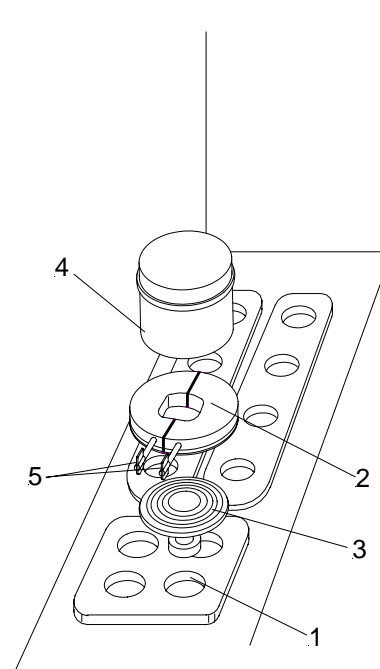
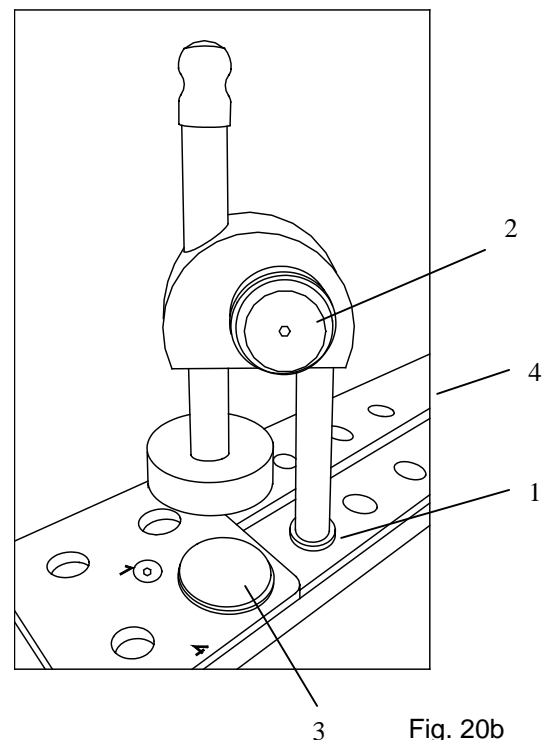

Fig. 20a
Fig. 20b
Two different heat extractors (fig. 20a and fig. 20b) are available:
#### Heat extractor (fig. 20a):
- Insert the chuck (fig. 20a.3) into the fast freezing rail (for standard version) or into the rail with Peltier element (for versions with option P).
- Then insert a cryo mold (fig. 20a.2) onto the chuck (30 or 40 mm).
- The heat extractor (fig. 20a.4) is placed horizontally onto the specimen.
#### Heat extractor (fig. 20b):
- Insert the heat extractor (fig. 20b) into the fast freezing rail (fig. 20b.1).
- To pre-cool the heat extractor, turn the knob (fig. 20b.2) to lower the heat extractor onto the fast freezing plate (fig. 20b.4).
- Turn the knob (fig. 20b.2) to lower the heat extractor onto the specimen (fig. 20b.3).
- Further turn the knob (fig. 20b.2) to increase the pressure onto the specimen. Carefully observe this process to avoid a possible deformation of the specimen.
- To loosen the heat extractor, turn the knob (fig. 20b.2) in opposite direction.